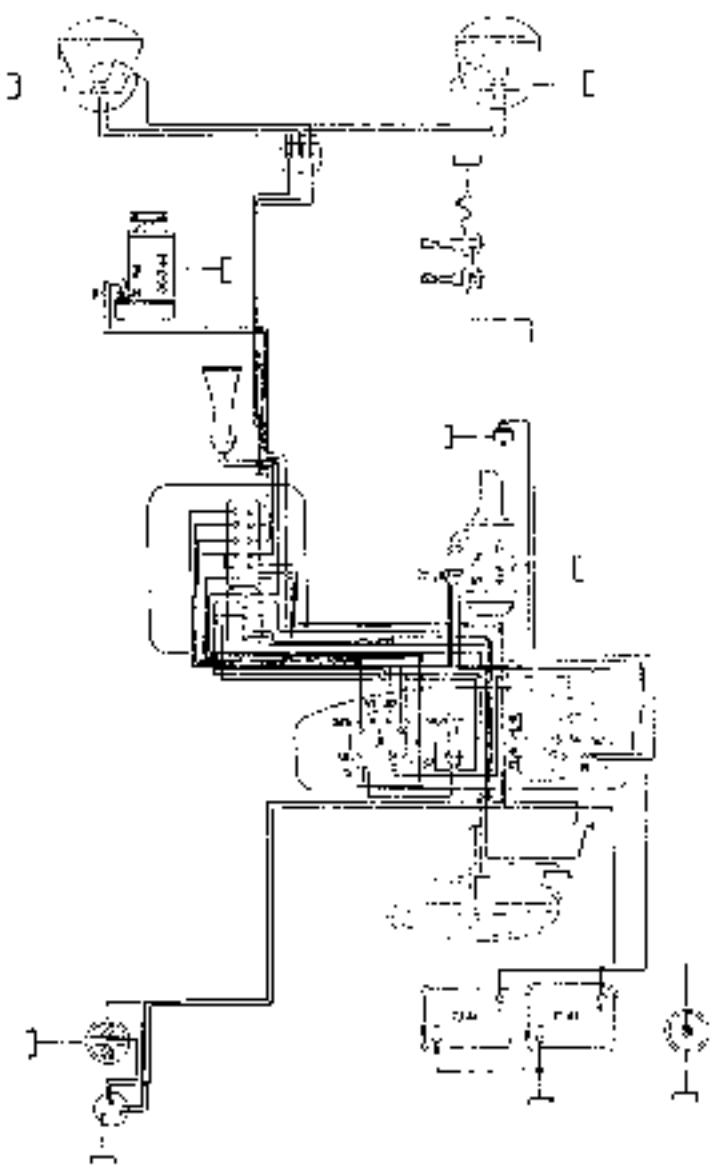

Fig. 74
- b) From Serial No. 125-06147 up to Serial No. 125-40724 of the Zetor 25 and Zetor 25 A tractors (supplied from Serial No. 125-31120 onwards) and from Serial No. 225-1001 up to Serial No. 225-04120 of the Zetor 25 K tractors: dynamo model 02-9055-02 (DGD 44) Part No. 3140.05, with built-in single-coil voltage regulator 02-9402.01, Part No. 530.02 - for wiring diagrams see Fig. 74 and 75.